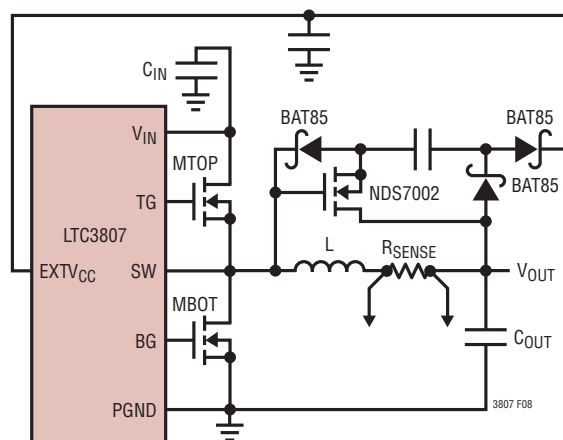

Figure 8. Capacitive Charge Pump for EXTV_{CC}
4. **EXTV_{CC} Connected to an Output-Derived Boost Network.** For 3.3V and other low voltage regulators, efficiency gains can still be realized by connecting EXTV_{CC} to an output-derived voltage that has been boosted to greater than 4.7V. This can be done with the capacitive charge pump shown in Figure 8. Ensure that $\text{EXTV}_{\text{CC}} < V_{\text{IN}}$.